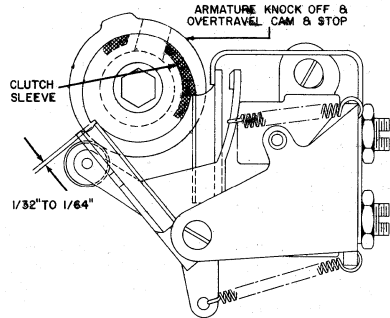

Figure 10
8. Loosen the set screws on the knock off & overtravel cam and set it so the clutch can overtravel $1/64''$ before the cam contacts the clutch sleeve (Figure 10).